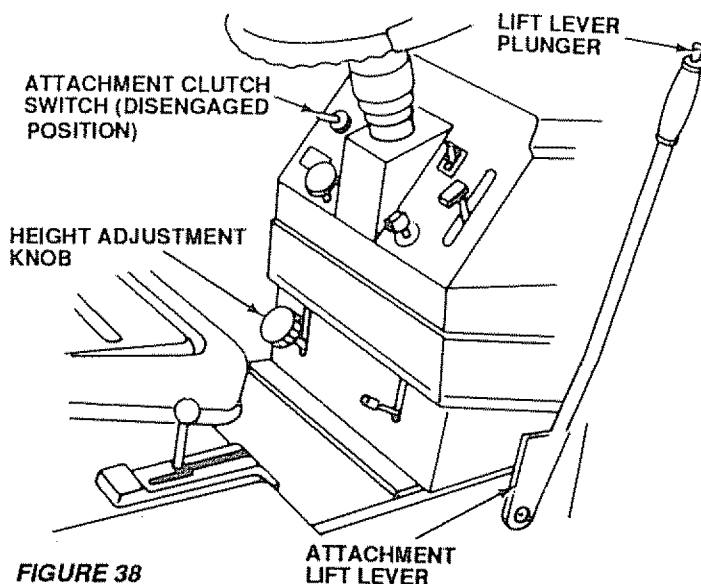

FIGURE 38
- Place attachment clutch switch in "Disengaged" position (Fig. 38).
- Turn height adjustment knob to its lowest position. Move attachment lift lever (Fig. 38) forward to lower mower to its lowest position.